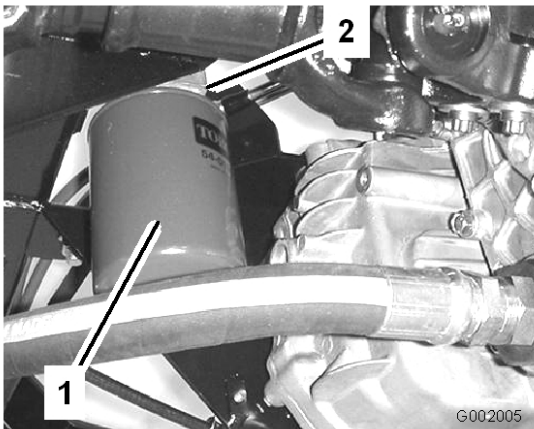

Figure 69
4. Remove the filter (Figure 69).